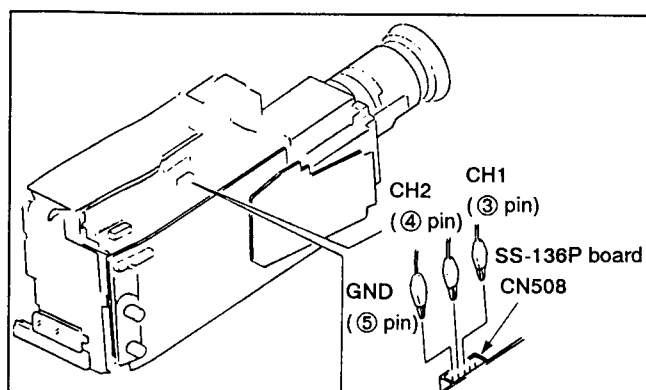

Fig.9-1.
- 4) Check that the RF waveform of the oscilloscope is flat at both inlet and outlet sides. When not flat, make adjustment as follows. (Refer to Figs. 9-1 and 9-2.)